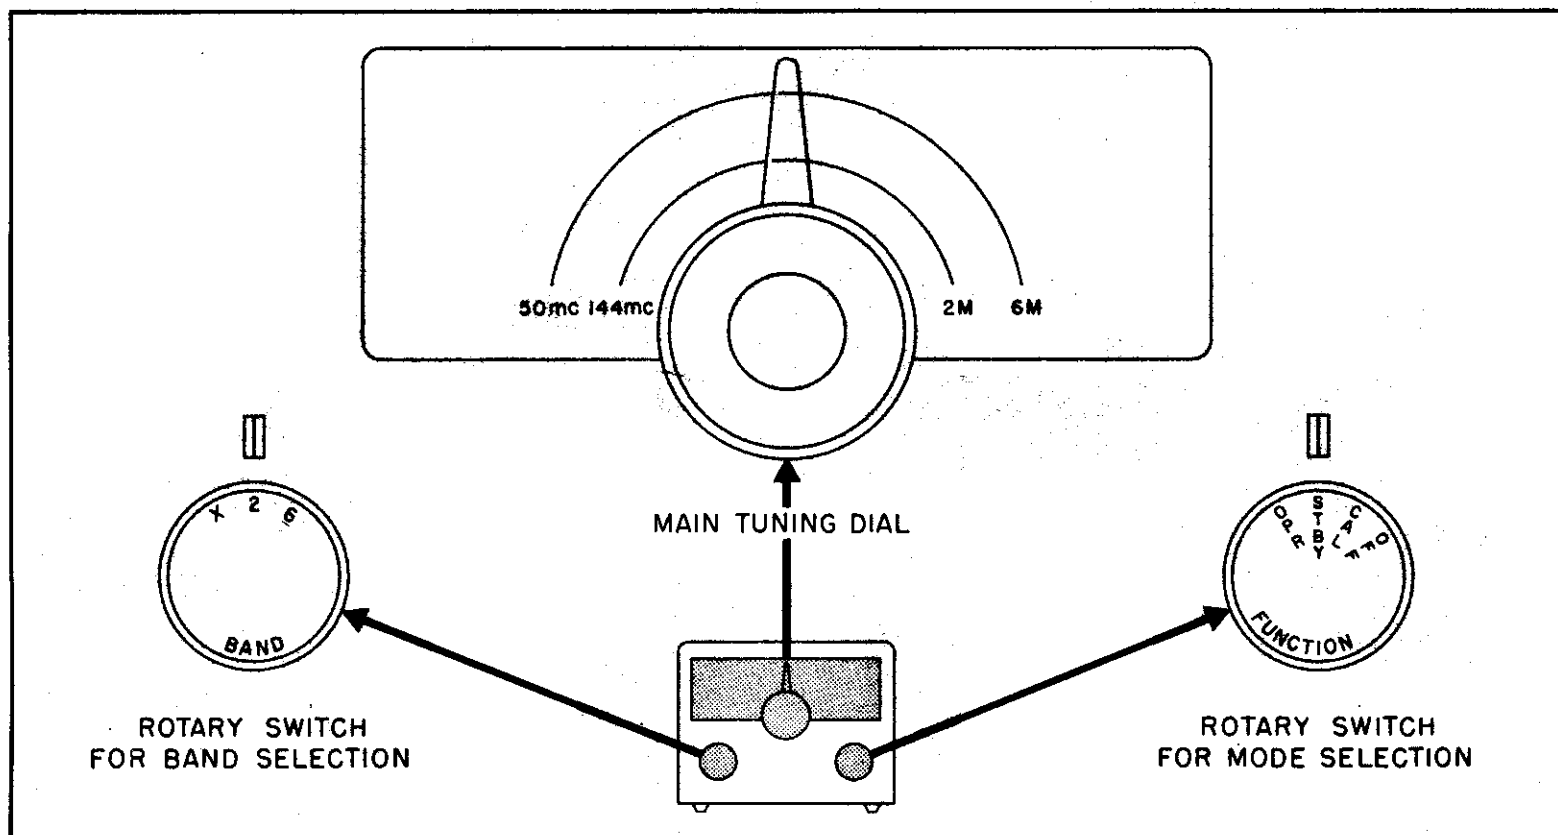

Figure 3. Location and Function of Controls
3.1 Controls — The three controls required to operate the VFO-62 are located on the front panel. Figure 3 shows the physical location and gives a short description of each control.